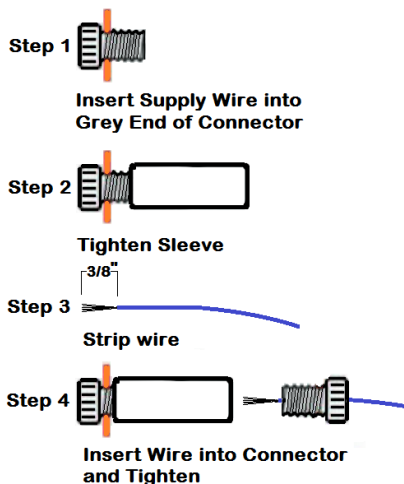

Figure 10a
6. Connect one wire from the nitrous solenoid together with the large **blue** wire from the mini 2-stage progressive controller, using one of the provided Posi-Twist connectors (**Figure 10a & 10b**).
7. Connect one wire from the fuel solenoid together with the large **red** wire from the mini 2-stage progressive controller, using one of the provided Posi-Twist connectors (**Figure 10a & 10b**).